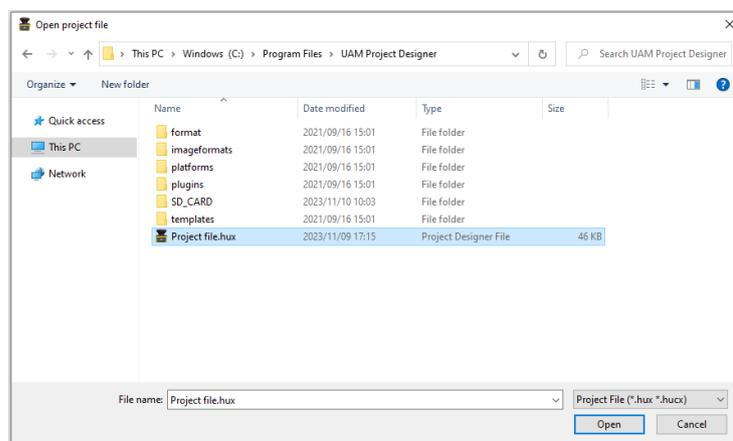

Figure 7-55 Save project file
- c) Dialog box will appear (Figure 7-55). Select the project file [\*\*\*\*\*.hux] to open.